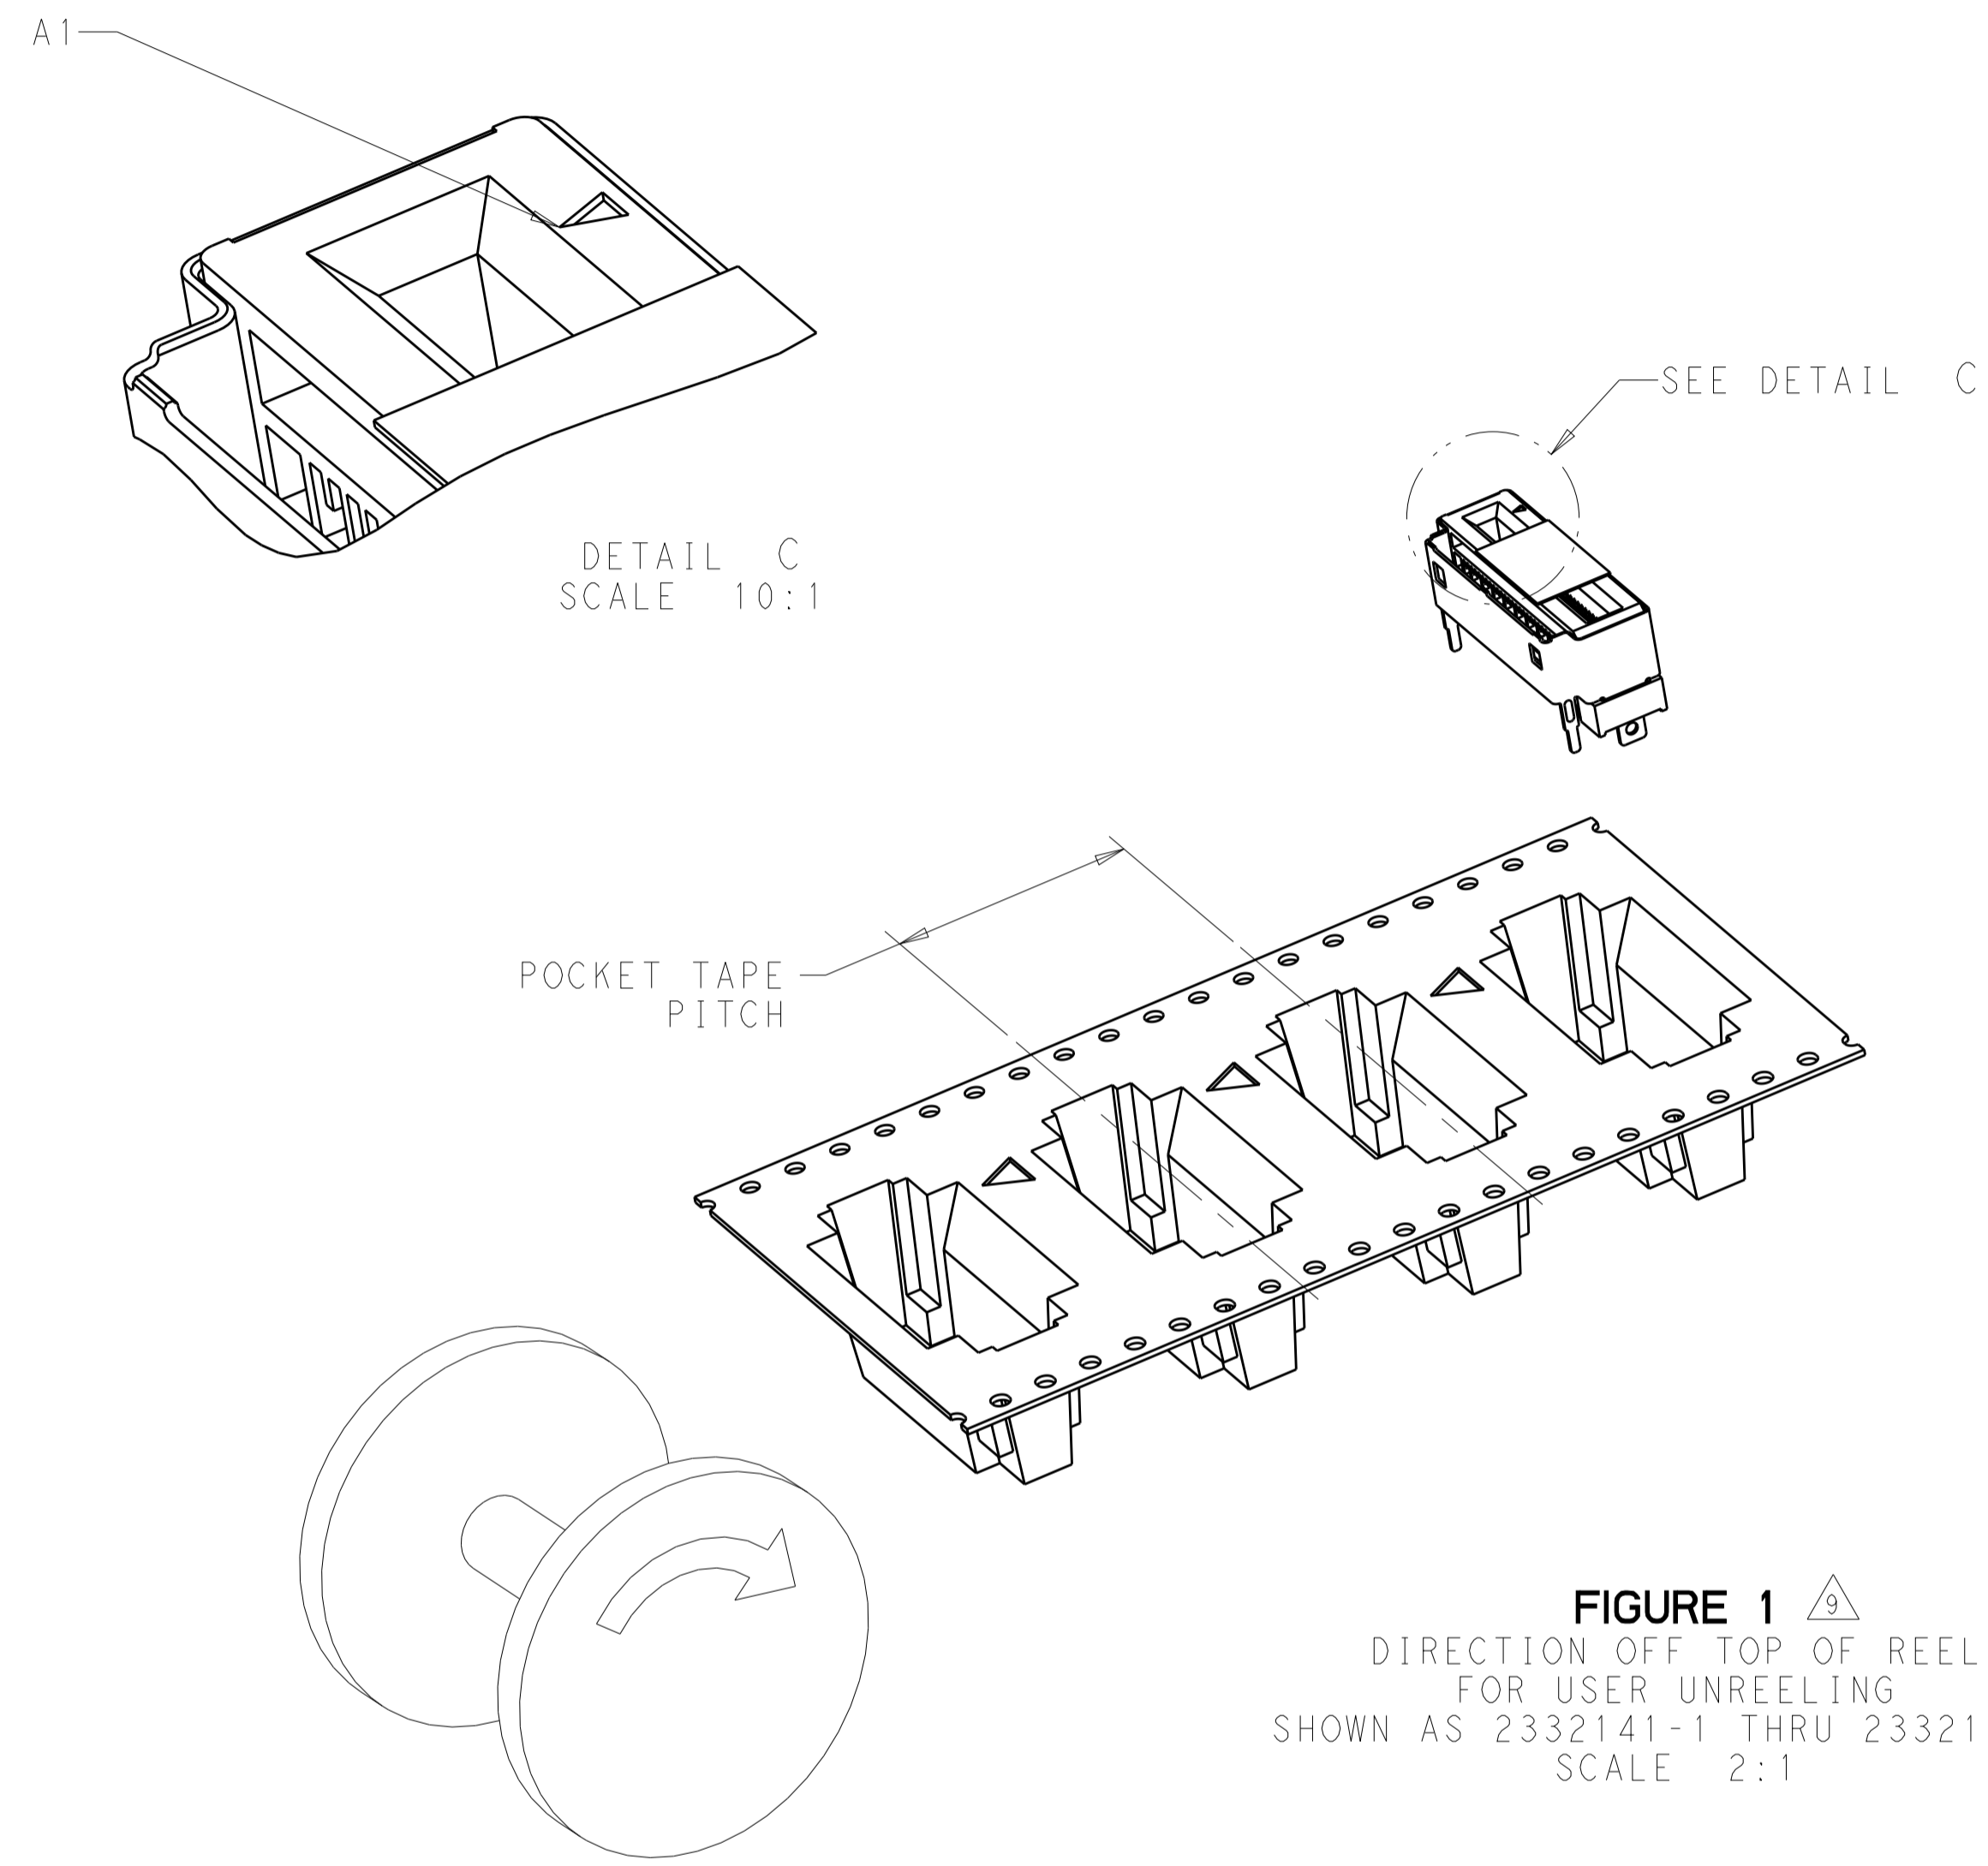

FIGURE 1
- 8 TAPE AND REEL PACKAGED FOR PICK AND PLACE SMT PROCESSING, SEE FIGURE 1. POCKET TAPE: WIDTH = 44.